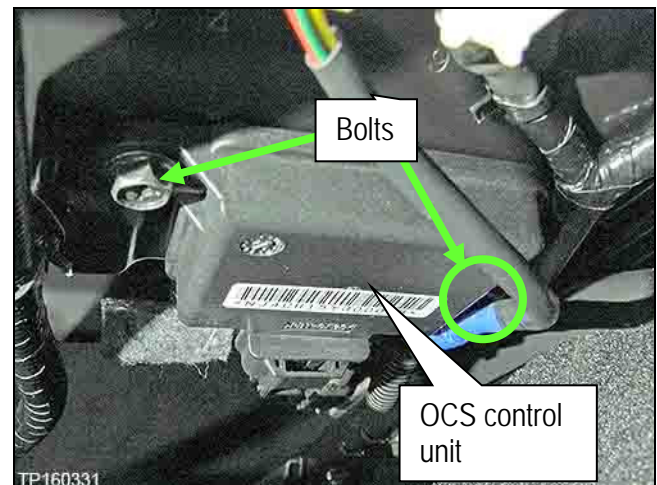

Figure 6
- The second bolt is located on the opposite side of the OCS control unit where indicated in Figure 6.